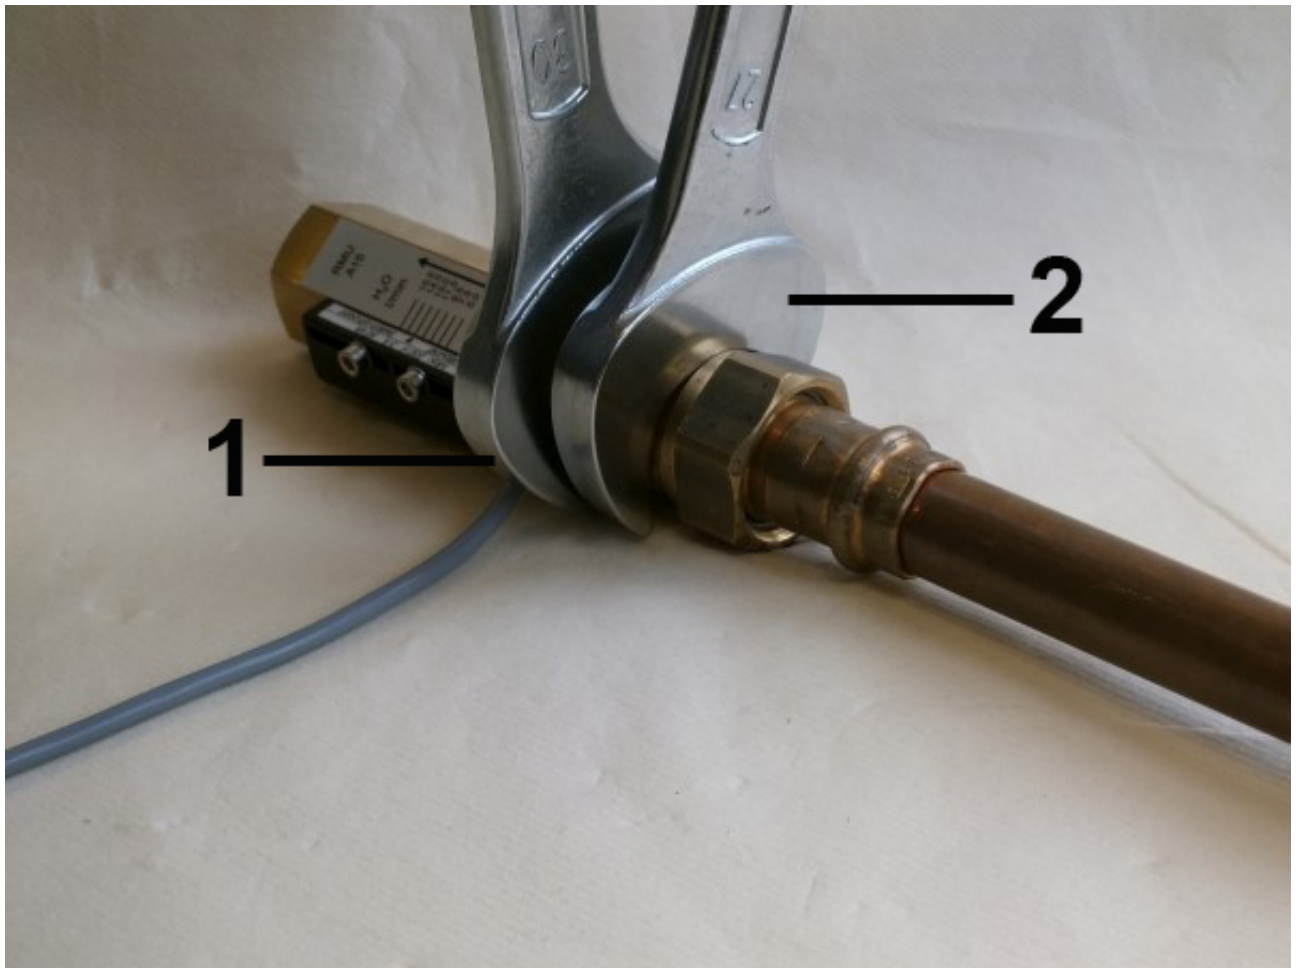

Fig. 11: Screw in the device
- 2.** ➔ Fasten the adapter union of the pipe line with an appropriate spanner (Fig. 11/2). When doing so, lock the process connection of the device in place to prevent slip, using a suitable spanner (Fig. 11/1).